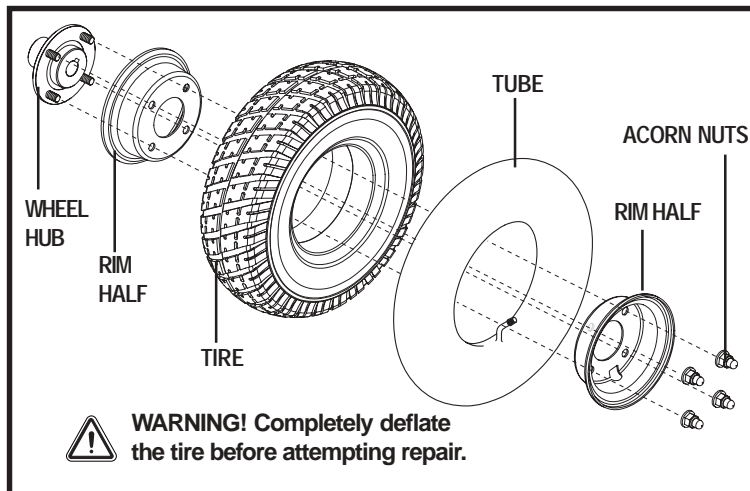

Figure 29. Jazzy Select Series Drive Wheel Disassembled
8. Remove the acorn nuts that fasten the two rim halves together. See figure 29.
12. Reinstall the drive wheel nut and washer onto the axle and tighten. See figure 29.